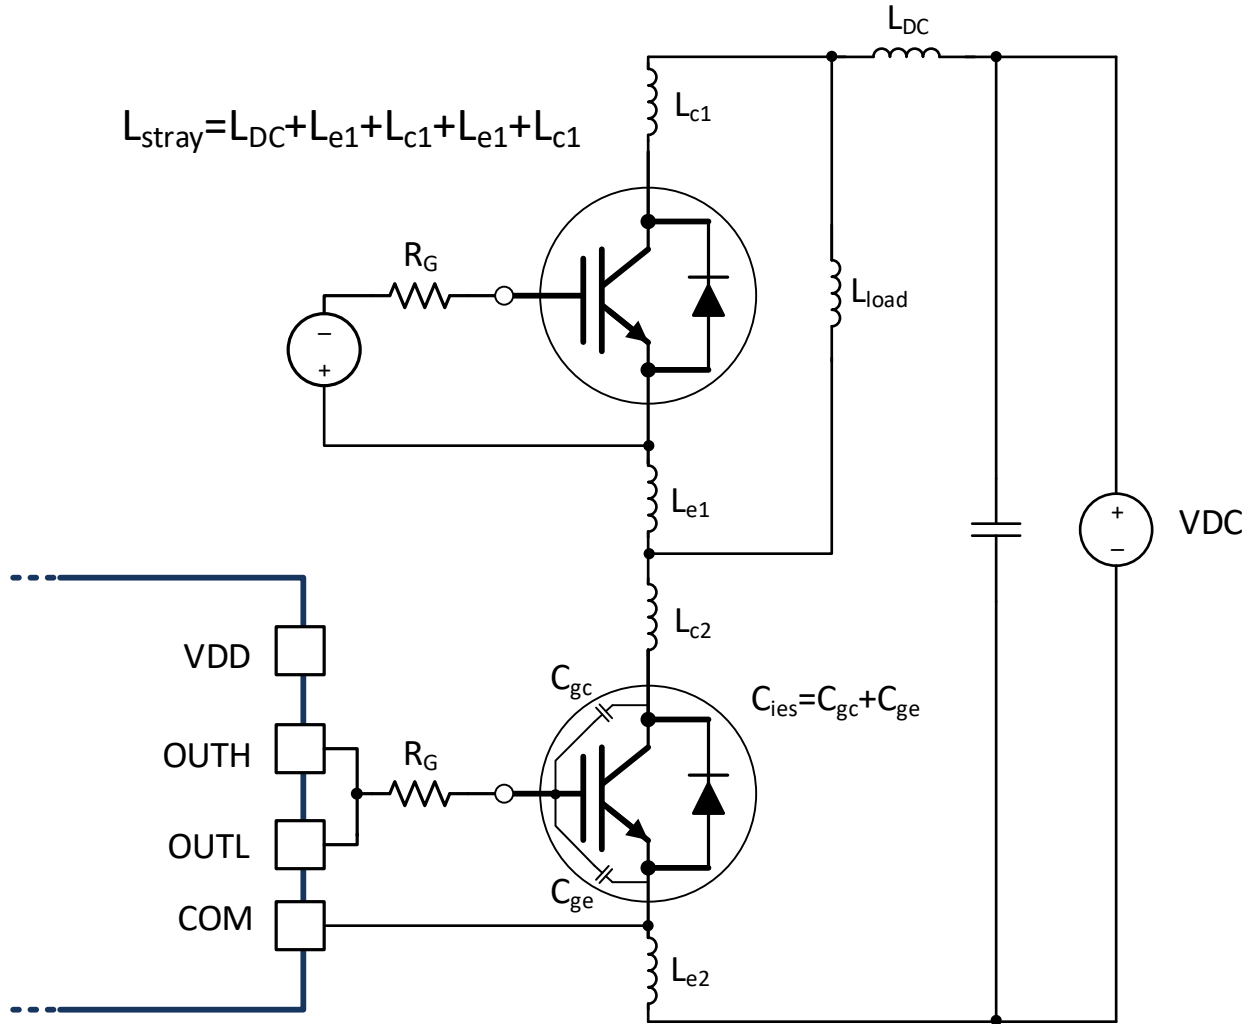

图 8-6. Stray Parasitic Inductance of IGBTs in a Half-Bridge Configuration
- $L_{\text{stray}}$  is the stray inductance in the power switching loop, as shown in 图 8-6.